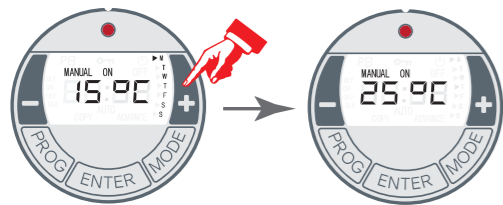

Fig. 8
- Note: The desired room temperature can be changed at any stage by using the "+" or "-" keys (see Fig.8) but the product must be in MANUAL ON mode (not available in MANUAL OFF mode).